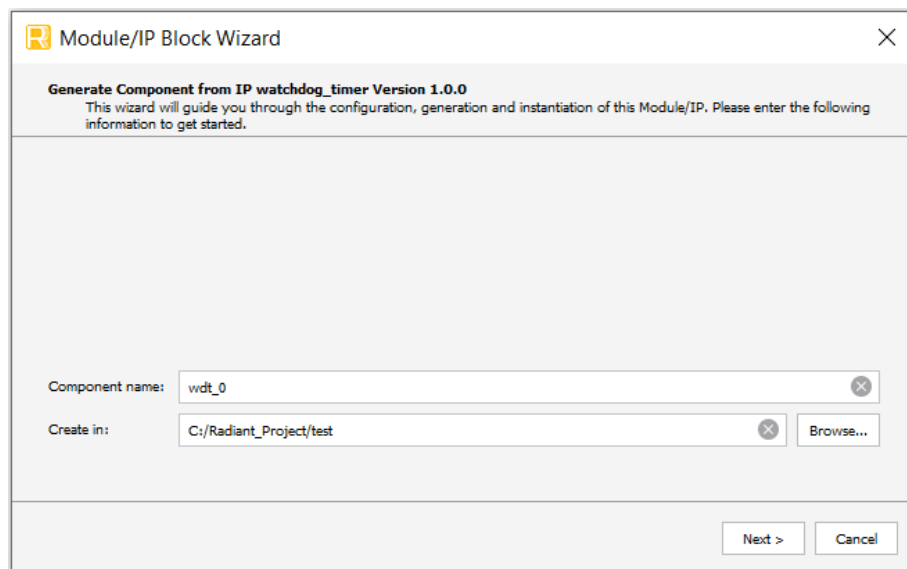

Figure 3.1. Module/IP Block Wizard
2. In the **IP Catalog** tab, double-click on **Watchdog Timer** under **IP, Processors_Controllers_and_Peripherals** category. The **Module/IP Block Wizard** opens as shown in Figure 3.1. Enter values in the **Instance name** and the **Create in** fields and click **Next**.
- Click the **Finish** button. All the generated files are placed under the directory paths in the **Create in** and the **Instance name** fields shown in Figure 3.1.